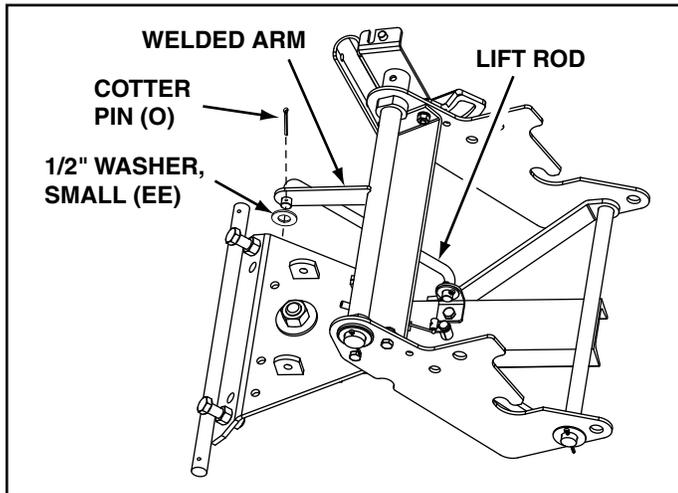

FIGURE 16
STEP 15: (SEE FIGURE 16)
- Attach the ends of the lift rod to the lift bracket on the channel and the welded arm on the frame assembly. Use two small 1/2" washers (EE) and 1/8" x 1-1/4" cotter pins (O).